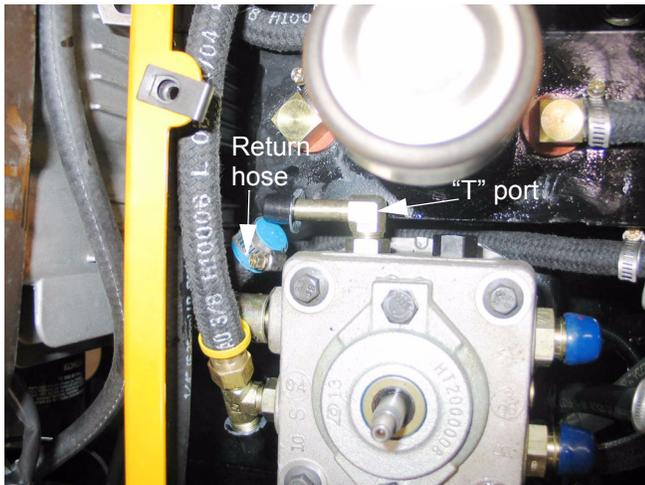

Figure 25.16
25.16. Disconnect the return hose from the “T” port on the hydro. pump using a screwdriver or 1/4” hex driver to loosen the hose clamp. See Figure 25.16.